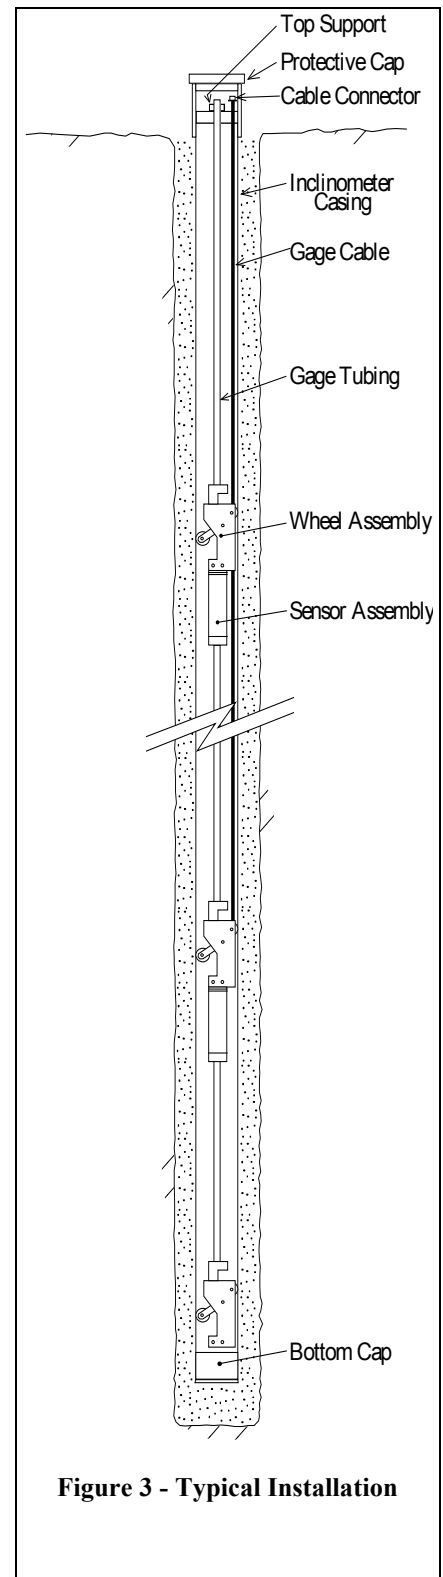

Figure 3 - Typical Installation
- 1) Connect the safety cable to the bottom wheel assembly. (See Figure 3.) This is strongly recommended. Not only can it be used to retrieve the assembly in the event that one of the joints breaks loose, but it is also very useful in lowering the assembly into the casing. The alternative is to hold the tube sections with vice-grips at the top of the casing.
The bottom anchor is labeled and has no Universal joint, just the swivel. The safety cable has a loop at its bottom end which fits over the long bolt used to hold the bottom anchor to the first tube section. This is shown in Figure 3. The cable eyebolt is trapped between two nuts.